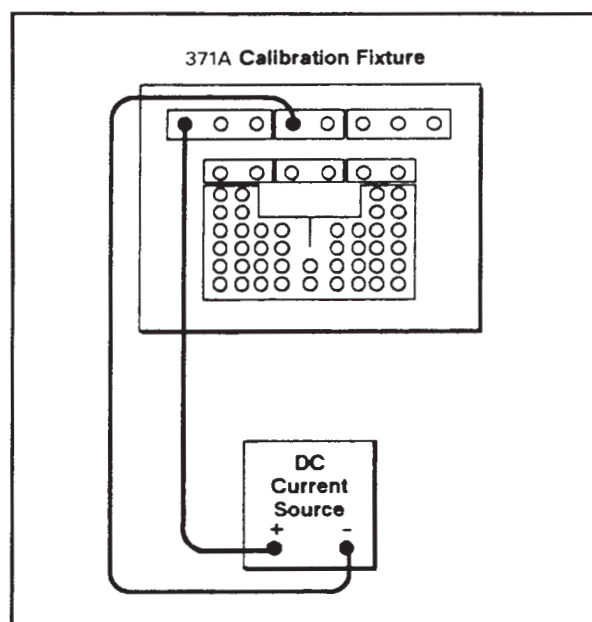

Figure 4-5. Calibration Fixture setup for checking collector current measurement accuracy in high voltage mode.
3. Connect the current source between the COLLECTOR SUPPLY HIGH VOLTAGE and the COMMON terminals on the Calibration Fixture by using two long patch cords as shown in Figure 4-5.